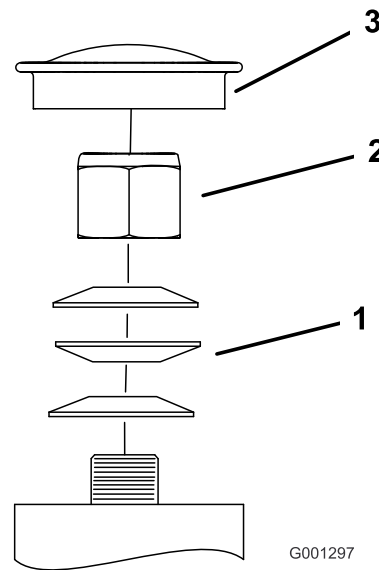

Figure 62
3. Remove the dust cap from the caster and tighten the locknut (Figure 62).
4. Tighten the locknut until the spring washers are flat, then back off a 1/4 turn to properly set the pre-load on the bearings (Figure 62).
Important: Make sure that the spring washers are installed correctly as shown in Figure 62.
5. Install the dust cap (Figure 62).